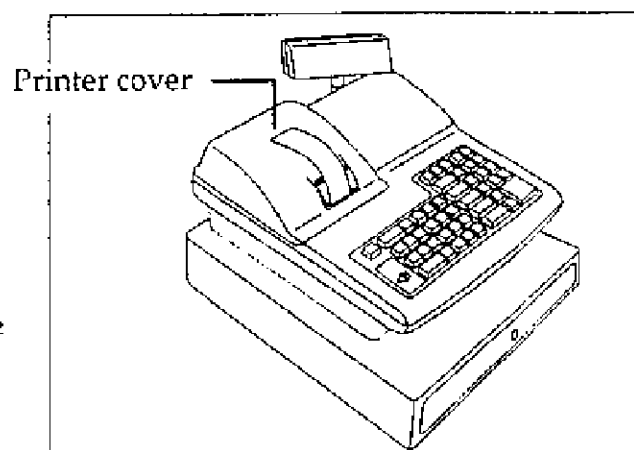

Fig.4
2. From the front of the cash register, grab the rear of the printer cover and lift it up (See Fig.4.).